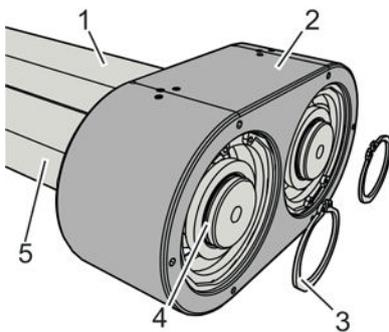

Fig. 105: Placing down the lower bearing housing
22. ▶ Place down the lower bearing housing (Fig. 105/2) with cutter block shafts (Fig. 105/1, 5).
23. ▶ Take off the outer retaining rings (Fig. 105/3) from the grooves (Fig. 105/4) of the cutter block shafts (Fig. 105/1, 5) and place to the side.
24. ▶ Pull out the cutter block shafts (Fig. 105/1, 5) from the bearing housing (Fig. 105/2).